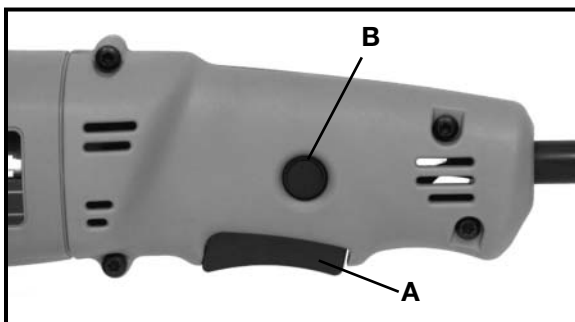

Fig. 1
2. Grip tool firmly to resist starting torque, and squeeze trigger switch (A) Fig. 1, to START tool.
- Squeeze trigger switch to START motor and depress lock button (B) Fig. 1, while releasing trigger switch. Release lock button.